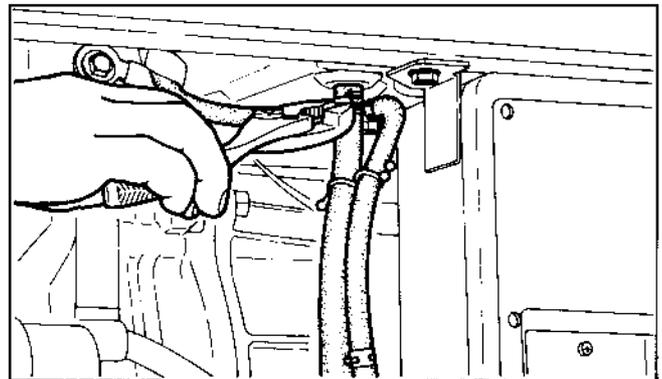

Fig. 10-2
| | | (2) Disconnect the fuel pipe and return pipe from the tank bottom. (See Fig. 10-2.) 1. Remove the hose clamp and pull the fuel pipe off from the tank. 2. Remove the banjo bolt that fastens the return pipe. | Do not lose the gasket | Pliers 12 mm spanner |